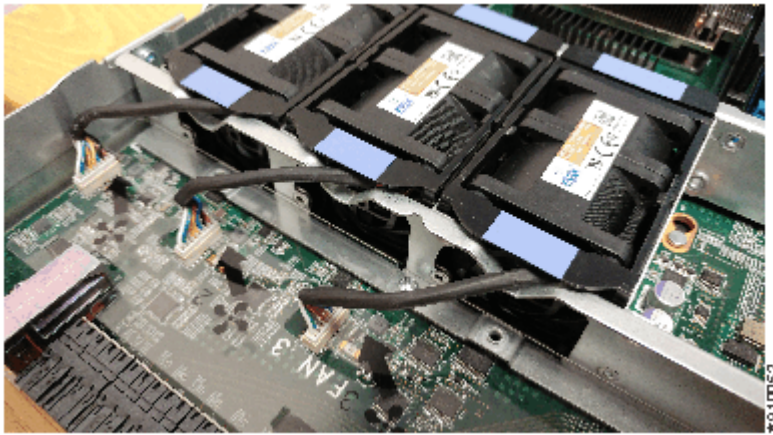

Figure 91. Aligning the cable connector
7. Install the replacement fan module into the vacant fan slot. The cable must face toward the canister front. Be careful to ensure the connecting cable passes over the air dam at the V-shaped indent, as shown in Figure 91 on page 140. Ensure that the cable is not caught under the fan module.